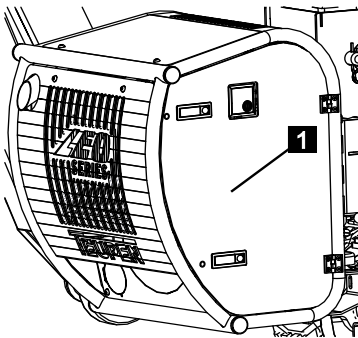

Fig. 191
1. Open the cover (Fig.191/1).